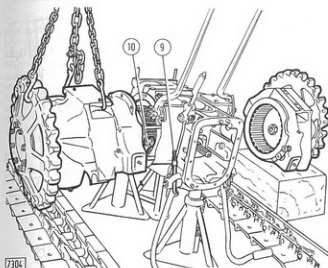

Fig. 122 - Removing (or Refitting) Bevel Drive Case
- Place the bevel drive case on stands, disconnect brake linkages (9, Fig. 122) from controls (10) and lift off the hub-reduction units using the chain and tackle shown.